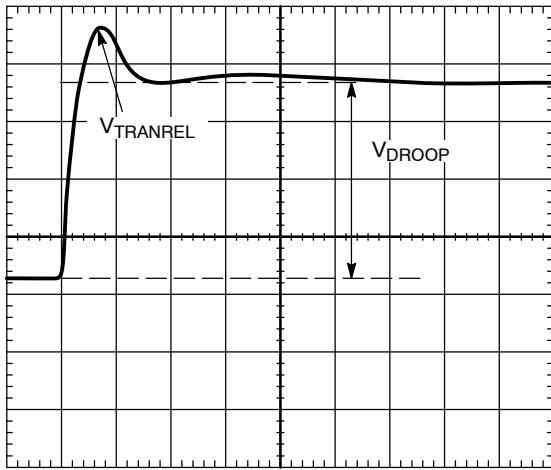

Figure 30. Transient Setting Waveform, Load Release
3. For load release (see Figure 30), if V_{TRANREL} is larger than the value specified by IMVP-6+, a greater percentage of output capacitance is needed. Either increase the capacitance directly or decrease the inductor values. (If inductors are changed, however, it will be necessary to redesign the circuit using the information from the spreadsheet and to repeat all tuning guide procedures).